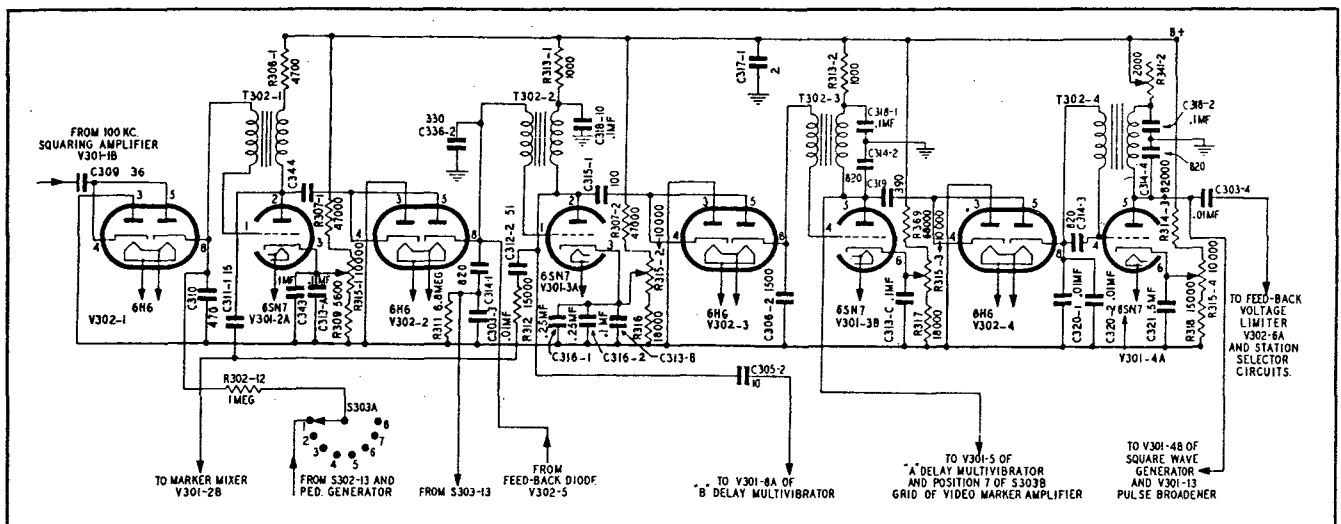
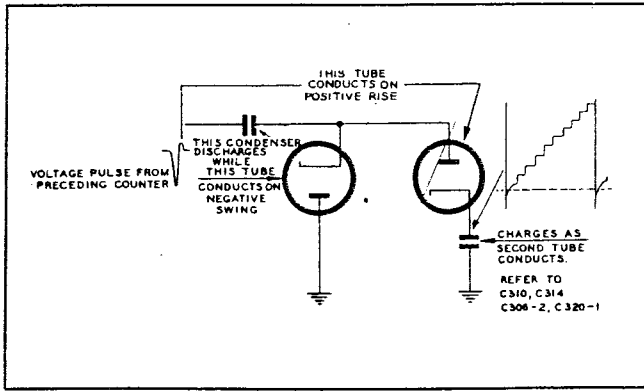

Figure 4-13. Counter Circuits
Figure 4-14. Counter Diode Action
(2) COUNTER CIRCUITS (FREQUENCY-DIVIDERS).—Counter circuits are used to reduce the 100-kilocycle oscillator frequency in order to provide the exact time base (approximately 25 cycles per second) necessary for synchronizing the indicator equipment with the various transmitting stations. The counter circuits also provide time marker pulses for use in graduating the oscilloscope trace. (See fig. 4-13.) Each counter circuit requires a double diode and a triode. The double diode functions as the counter unit, while the triode tallies the count. The output of the squaring amplifier tube V-301-1, is fed to the first counter circuit through capacitor C-309 (fig. 4-13). This energy is supplied to the plate of the A section and to the cathode of the B section of double diode V-302-1 (see fig. 4-14). When the plate voltage of V-301-1, the squaring amplifier, is swinging negative, the plate of the A section of V-302-1, will be more positive than the cathode. This section will therefore conduct and cause capacitor C-309 to discharge to a low voltage. During this time the B half of this diode remains idle since its plate is negative with respect to its cathode. On the positive swing of the applied voltage the B-half of diode V-302-1 will conduct while the A half remains idle. Voltage will build up across capacitors C-309 and C-310 (which will be di-